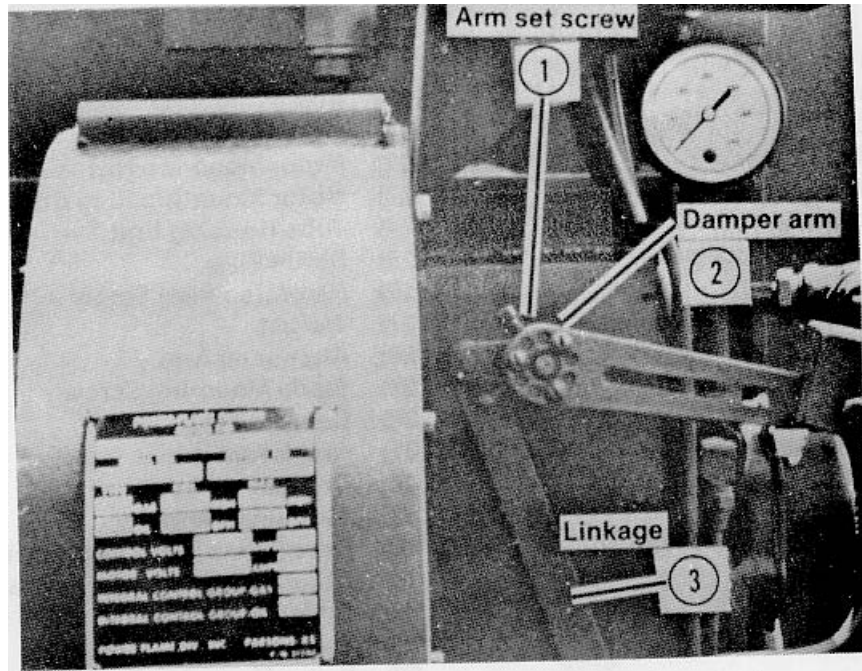

Figure 43. AIR DAMPER LINKAGE
- 3 Inspect the mounting ring (Fig 44, Item 21). damper blades (Fig 44. Item 30), and linkage (Fig 43) for cracks, breaks. and other damage
1. Refer to Fig. 43 for the linkage adjustment points.